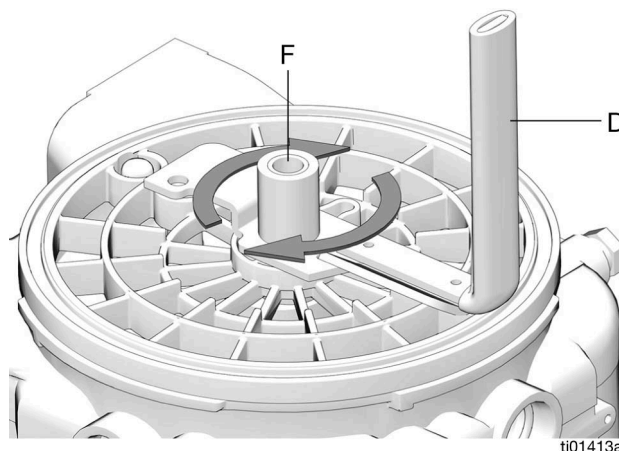

FIG. 5
2. Turn paddle (D) clockwise to loosen and remove it from G3 base (FIG. 5).